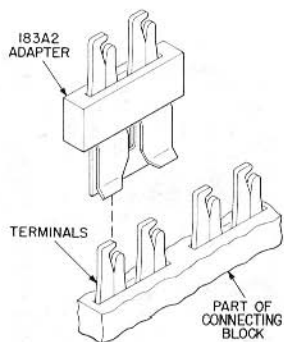
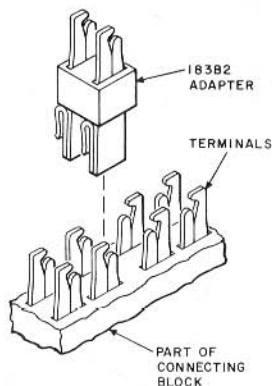

Fig. 13—183A2 Adapter, Installation Detail
Fig. 15—183B2 Adapter, Installation Detail
**4.04** The 183A2 adapter (Fig. 13) and 183B2 adapter (Fig. 15) provide additional multiplying capacity for horizontal and vertical terminals, respectively, on 66-type connecting blocks. If more than five adapters per block are needed, consider using additional blocks.